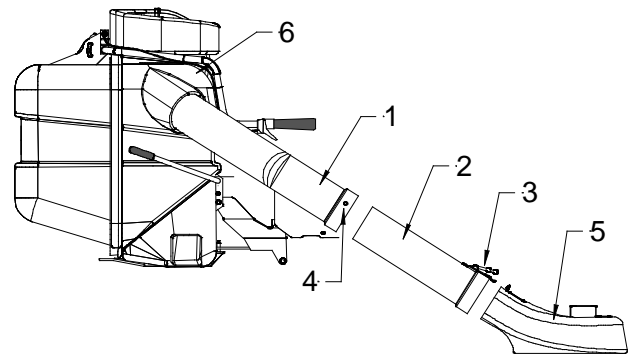

Figure 9
1. Slide the elbow tube in the collector (fig. 9).
2. Install the straight tube on the boot and secure in place with the rubber latch (fig. 9).
3. Insert the elbow tube onto the straight tube. Be sure both tubes are aligned (fig. 9).
4. Use the holes already drilled in the elbow tube as templates to drill same size holes through the straight tube (fig. 9).
5. Remove both tubes in order to be able to insert your hand in the tube to install the carriage bolts $\frac{1}{4} \times \frac{3}{4}$ ", head on the inside. Secure in place with flange nuts (fig. 9).